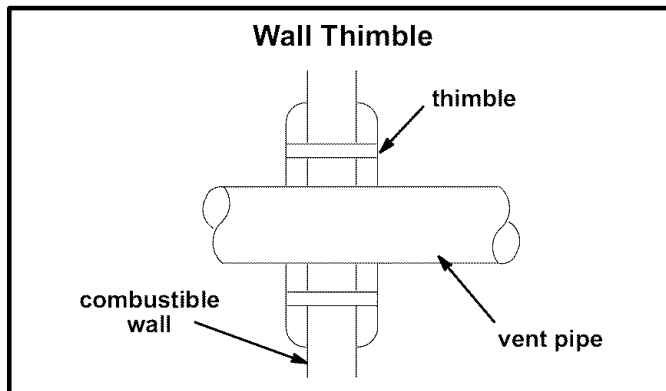

Figure 5
- 8 - The vent may pass through a wall where provisions have been made for a thimble as specified in the Standards of the National Board of Fire Underwriters. See figure 5.